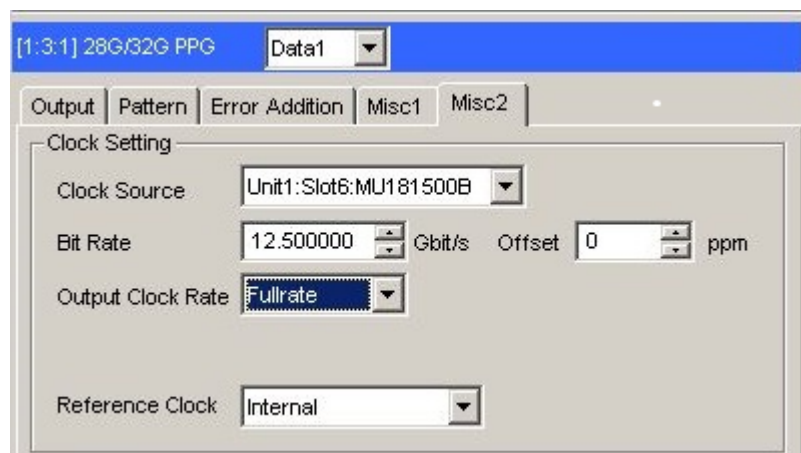

Figure E.3-2 Output Clock Rate Setting on the Misc2 Tab of MU183020A
4. Use a coaxial cable (applicable part, 1.3 m, K connector) to connect MU183020A's **Clock Output** connector and MP1825B's **Clock Input** connector. Then, on the **Misc2** tab of MU183020A, select **Full Rate Clock** in the **Output Clock Rate** box. (Figure E.3-2)
4. Use a coaxial cable (applicable part, 1.3 m, K connector) to connect MU183020A's **Clock Output** connector and MP1825B's **Clock Input** connector. Then, on the **Misc2** tab of MU183020A, select **Fullrate** in the **Output Clock Rate** box. (Figure E.3-2)